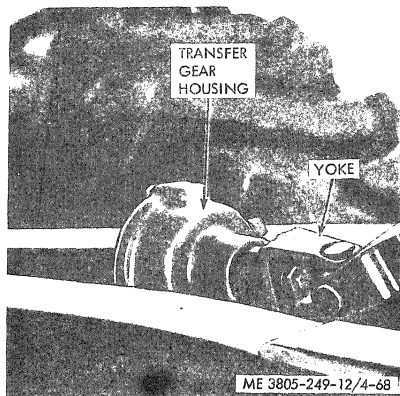

Figure 4-68. Transfer gear housing.
a. Removal. Refer to figure 4-68.
(1) Remove the drain plug and allow the housing to drain.
(2) Remove the retaining rings, and drive out the pins at both ends of the shaft.